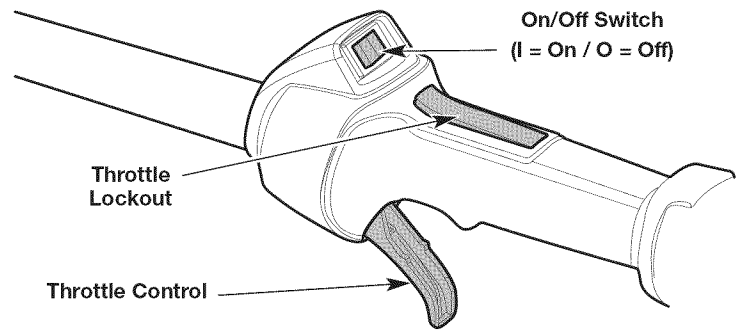

Fig. 9
NOTE: There is no need to turn the unit on. The On/Off switch is in the **On (I)** position at all times (Fig. 9).
NOTE: **DO NOT** squeeze the throttle control until step 8 (Fig. 9).
9. Press and hold the throttle lockout (Fig. 9). Squeeze the throttle control as needed for operation (Fig. 9).
2. Press and hold the On/Off switch in the **Off (O)** position until the engine comes to a complete stop (Fig. 9).
NOTE: There is no need to turn the unit on. The On/Off switch is in the ON (I) position at all times (Fig. 9).
NOTE: DO NOT squeeze the throttle control until step 10 (Fig. 9).
11. Press and hold the throttle lockout (Fig. 9). Squeeze the throttle control as needed for operation (Fig. 9).